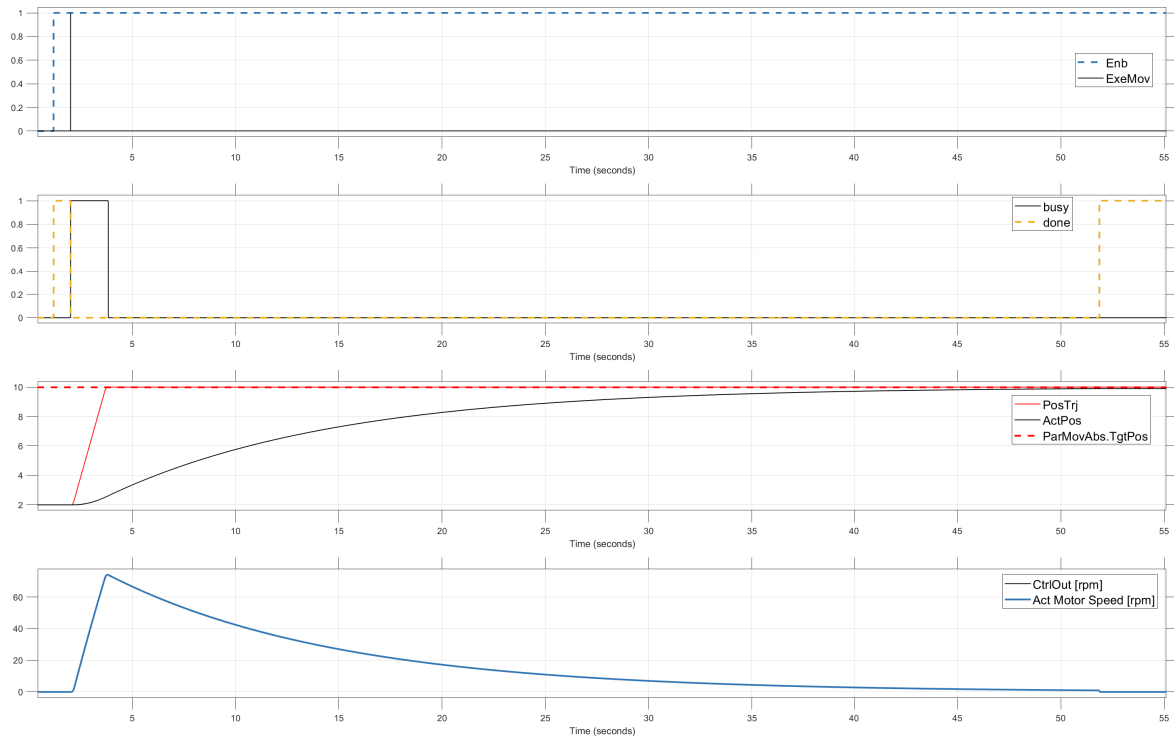

Figure 14: Example with K_p to small!! ($K_p = 10$, Window = 0.2mm, TuneTime = 0.3s)
- The goal at this stage is to ensure that the actual position and the generated position trajectory (*PosTrj* output) are parallel. Do not focus on target accuracy at this point. See figure 14.